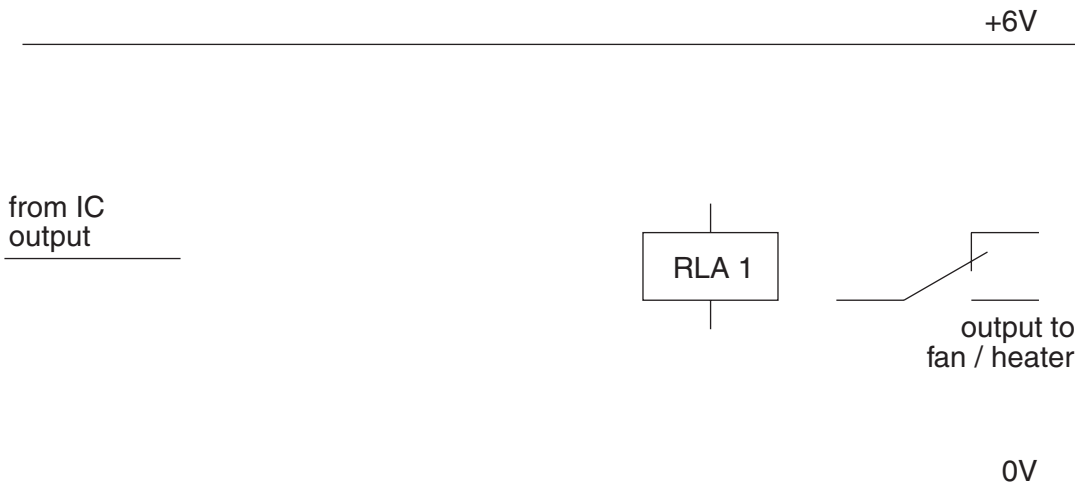

Fig. 12 [2]
- (c) The fan and heater of the drier use a 230V AC supply. Complete Fig. 12 to show how the output from the logic IC can be amplified to operate a relay.